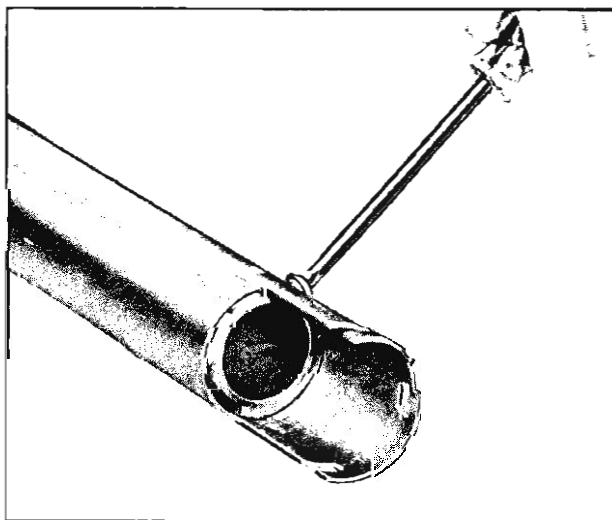

Fig. 26—Installing Upper Adjusting Ring
2. With attaching screw, loosely install upper adjusting ring (fig. 26).
2. With attaching screw loosely install upper adjusting ring (fig. 26).